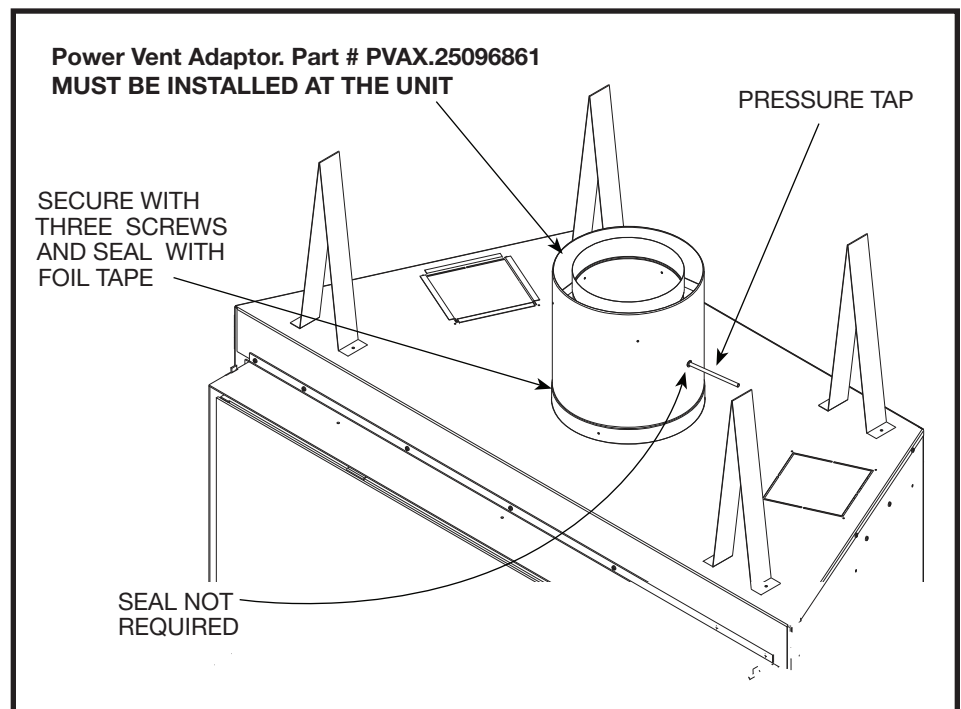
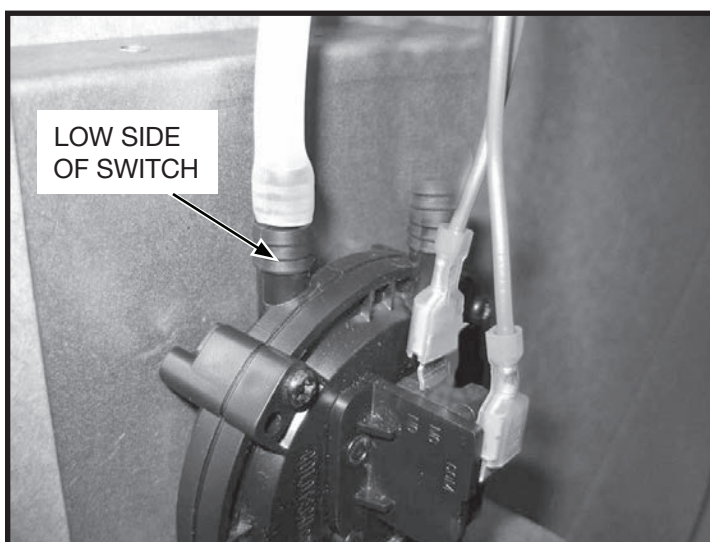

Figure 5: Power vent adapter.
Figure 23: Switch sides.
6. Connect the high temperature silicone tube to the vacuum pressure tap on the adaptor, secure with the hose clamp provided and route the tube through any hole back to control box (Figure 5). Tube may touch unit and be trimmed if required.
Attach the silicone tube from the upper pressure tap on the power vent adaptor (Figure 5) to the “low” port of the pressure switch. (Figure 23).